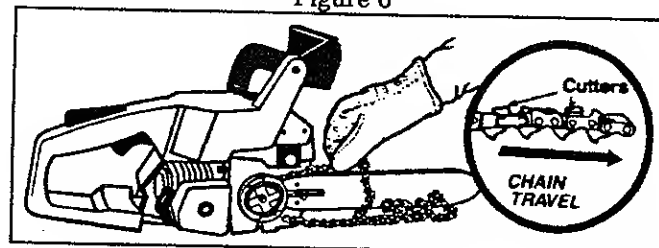

Figure 7
- Hold the chain with the cutters facing as shown in Figure 7 (inset).
- Place the chain over and behind the clutch drum and onto the sprocket. Figure 7. Fit the bottom of the drive links between the teeth in the sprocket.
- Start at the top of the bar and fit chain drive links into the groove around the guide bar. Figure 7.